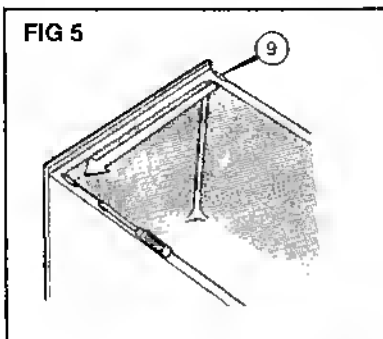

FIG 6
5. Pull out the lower hinge pin (8) which may have come away with the hinge blade or remained in the door. Push the pin (rounded end) into the bush at the bottom of the door on the side opposite to its original position.
7. It is important that the spacer (6) is retained with screw (4) in the channel between the base of the appliance and the foot/hinge when screwing the assembly into its new position.
9. Replace the level adjuster (1) in the small foot.
11. If your appliance has a side fix handle, see Fig. 6.